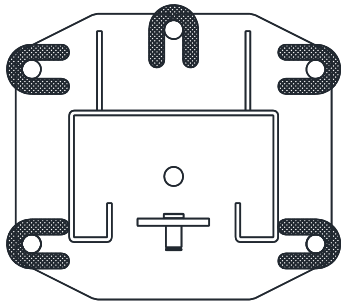

Fig. 2 – Column Shimming
- 8) Shim both columns to plumb using the shims provided as shown in **Fig. 2**. DO NOT shim more than 1/2" at any given point. Use a level no less than 24" in length to plumb columns.
- 13) Check idler column shimming. Use additional shims (**see Fig. 2**) to remove any gaps that may have been created while installing overhead beam. Tighten anchor bolts and re-check column for plumb. Torque to 150 foot-pounds.